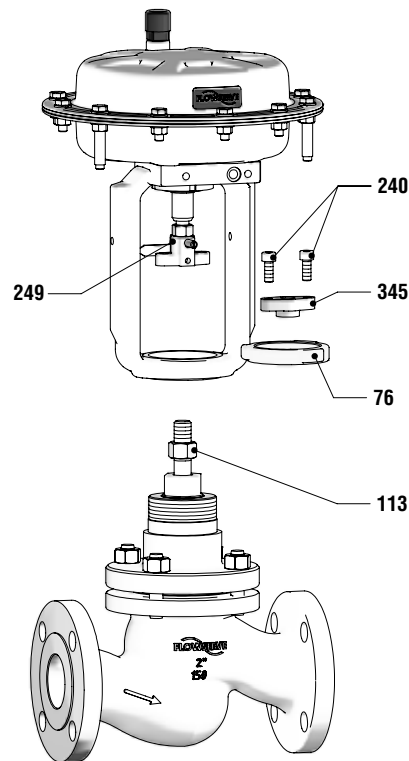

Figure 8: Remove the actuator
4. Turn the lock nut (113) clockwise to loosen. Keep upper coupling (249) from turning by securing with a wrench (See Figure 8: Remove the actuator).
5. Turn the cap screws (240) counter clockwise to loosen.
6. Turn the yoke lock nut (76) counter clockwise to loosen.